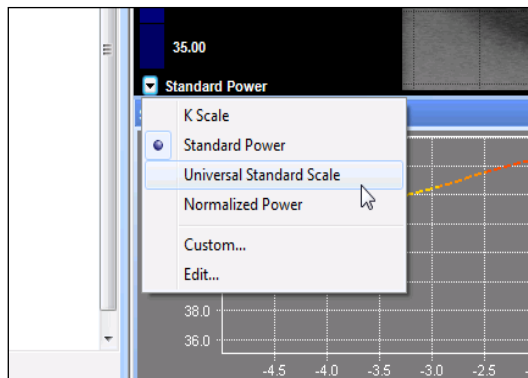
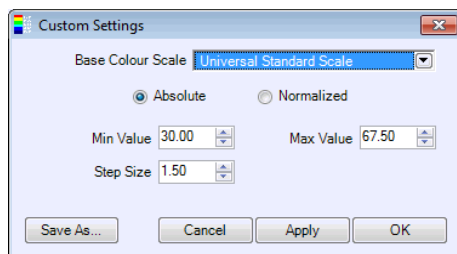

Figure 22. Selecting the current Color Key.
Figure 23. Color Key Custom Settings dialog.
- The current Color Key type is displayed at the bottom left of each map display. The keys are selected from the drop down box that appears by clicking on the down arrow beside the text (see Figure 22).
You can customise the color key to highlight a particular aspect of an exam. Drop down the Color Key selection box (see Figure 22) and click on the **Custom...** entry. This will present the **Custom Settings** dialog shown in Figure 23. The **Base Color Scale** text box shows the base scale of the currently selected key and the three spin boxes show that key's parameters (see *Manual Conventions* on page 1).
The current Difference Color Key type is displayed at the bottom left of a Difference map display, similar to a standard map view (like Figure 22). The **Custom Settings** dialog is the same as shown in Figure 23. For difference views the result of normalising the color key will usually show a more dramatic change because the differences typically have a smaller range. Figure 25 demonstrates on the left an Absolute color key with the expanded scale around zero, and on the right a Normalized color key of the same image showing the color key re-mapped from the standard -100 to $+100$ to cover just the image data range. Note that the scale will always be symmetrical about zero, even if the data is not.